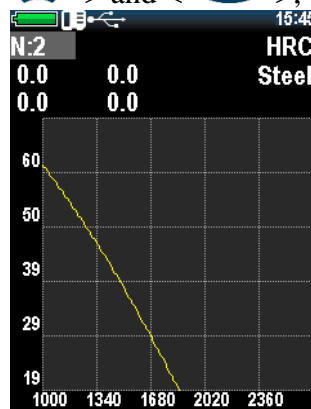

Figure 2.36 – Two points calibration
4. Push  key to select the number of the calibration points, If there are two samples, you must select 2 using the keys  and , to confirm push  (Fig. 2.36).